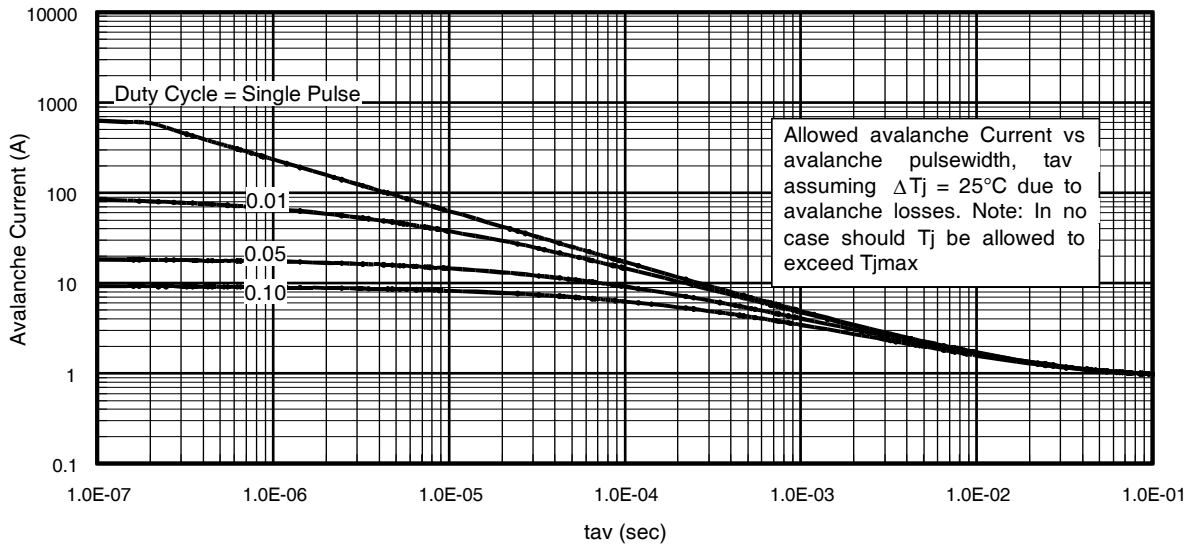

Fig 15. Typical Avalanche Current Vs.Pulsewidth
**Notes on Repetitive Avalanche Curves , Figures 15, 16:
7.  $\Delta T$  = Allowable rise in junction temperature, not to exceed  $T_{jmax}$  (assumed as 25°C in Figure 15, 16).